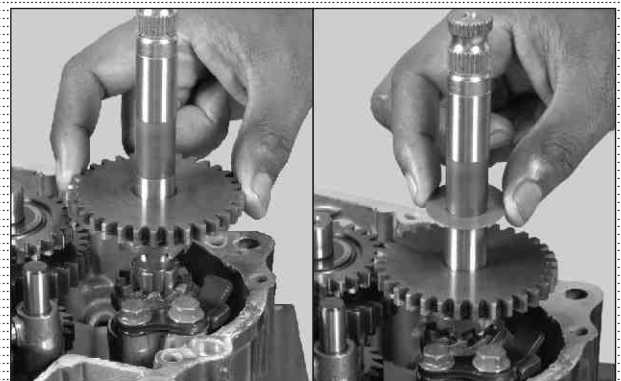

Fig. 3.183
- Assemble gear kick starter drive and shim (16x30.5x0.5) on the shaft kick starter. (Fig. 3.183)